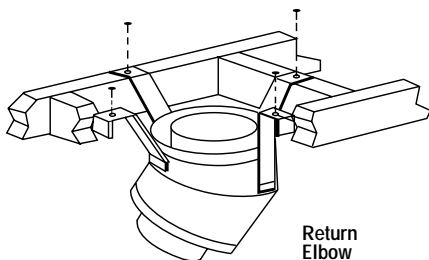

Figure 42
Step 5. Secure support straps to framing members by nailing under tension in sheer (*Figure 42*).